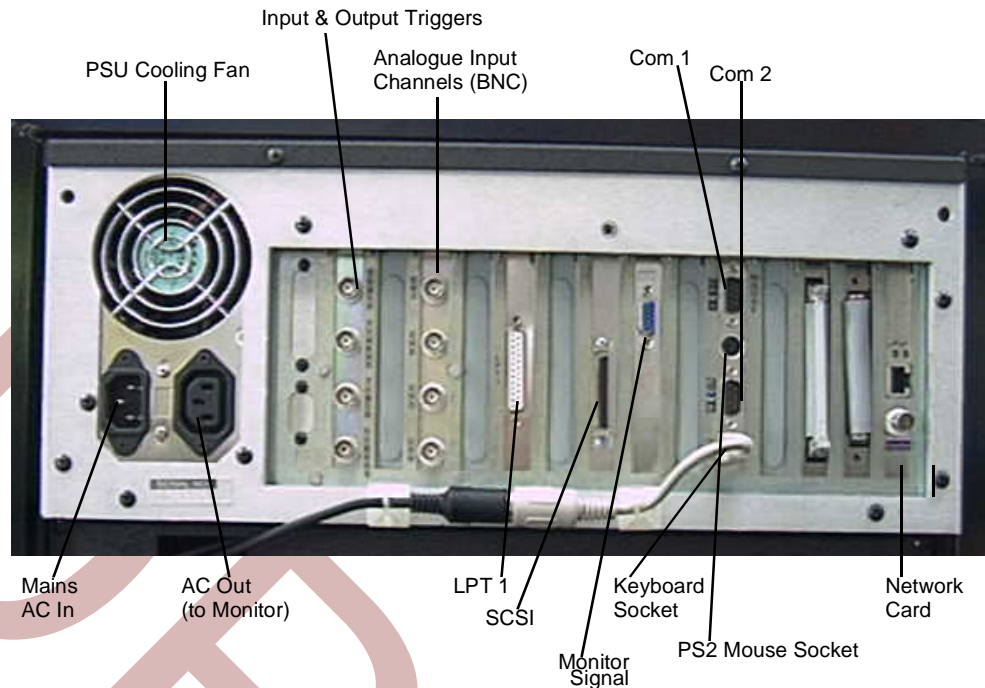

Figure 4-3 The DA System Back Panel and Cable Connectors
Figure 4-3, this page, shows the typical layout of the DA System's back panel. It identifies the connectors, *serial ports* and other item. Use this illustration to acquaint yourself with the cable connections before you try to connect the system, using the instructions below. Note the location of the following parts, which are identified from left to right:
- Keyboard socket: Figure 4-3, this page, shows a DA System fitted with two PS/2 connectors. If the system that you are using has two PS/2 connectors, you must use the lower one to connect the keyboard. Other DA System systems are fitted with either a single PS/2 or a single non-PS/2 connector for connecting the keyboard, depending on hardware.